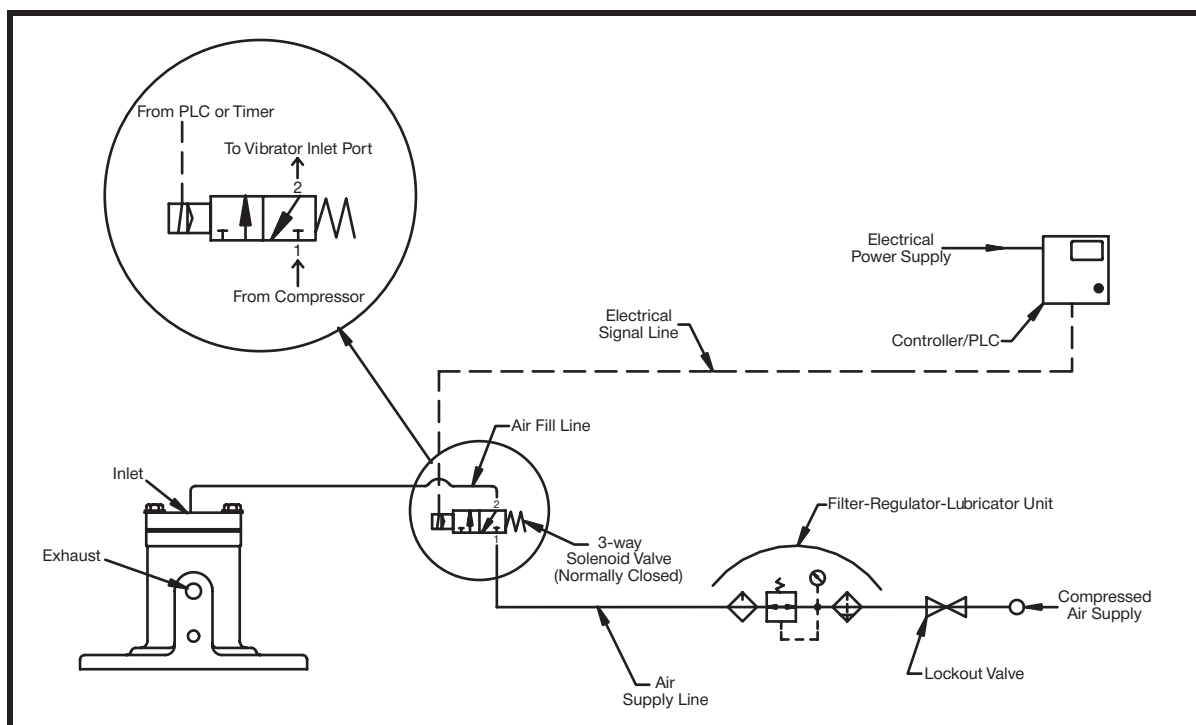

Figure 6. Martin® Thumper™ Series Timed Impactor Plumbing Detail for Normally-Closed Solenoid Valve
1. Run a lubricated air line (supplied by the customer) to the intake on the side of the vibrator/impactor body. See Figure 6. Set lubricator to deliver 1–3 drops of oil per minute.